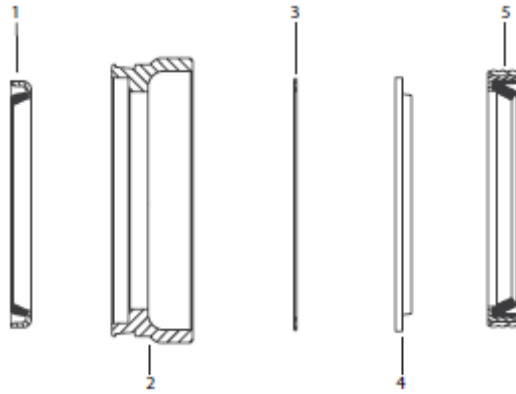

Figure 2: Correct seal orientation
6. Install backup shim (5), backup seal (6) and shaft seal (7) into the seal carrier (12). See *Figure 2* for correct seal orientation.
- a) Place side of seal carrier (12) with seal down on a flat surface and press down to seat seals in seal carrier (12).
- b) Install the dust seal (1) in the opposite side of the seal carrier (12).